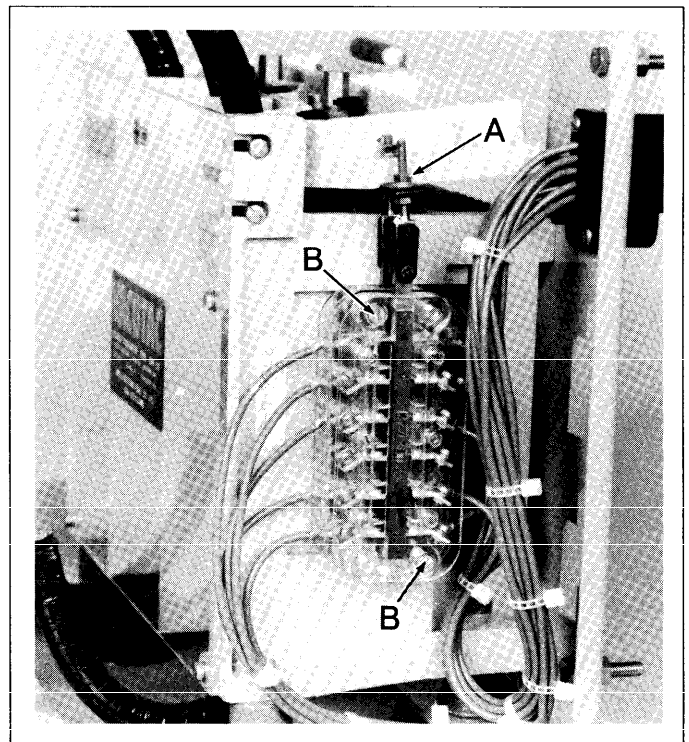
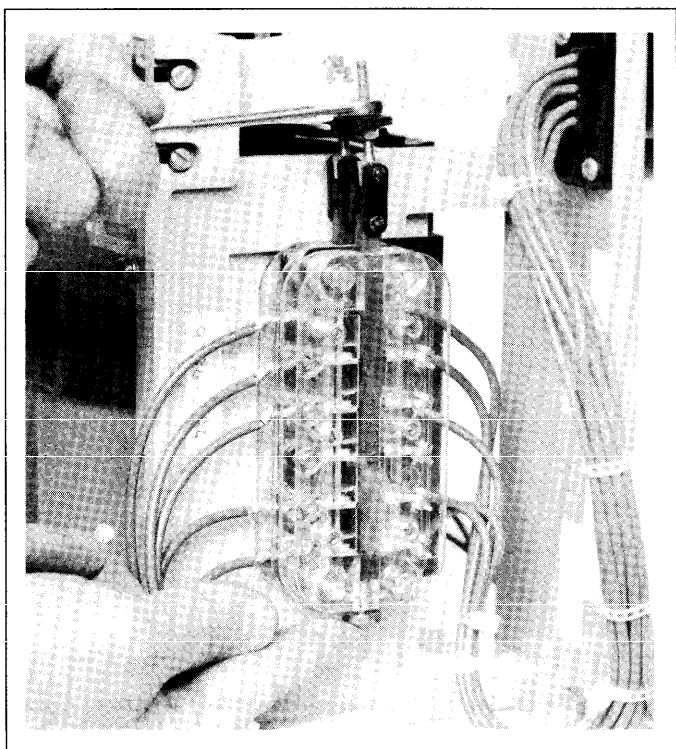

Figure 13. Replacement of interlock block assembly.
Figure 14. New interlock adjustment.
1. Tag all the wires that connect to the interlock terminals and then remove. See Figure 13.
2. Remove the nut from top of interlock driver stem on the top side of the armature molding (or extension arm). Item A, Figure 13.
3. Remove the two (2) interlock mounting screws and remove the interlock from the contactor. Item B, Figure 13. Remove any extension rods, nuts, and washers that might be connected to the interlock and assemble these parts to the new interlock assembly.
4. Assemble the new interlock assembly to the contactor using its two (2) mounting screws. Install the nut on the top of the interlock driver stem but do not tighten at this time.
5. Insert the interlock set gage into the bottom of the interlock as shown in Figure 14.
6. Adjust the nuts at the armature molding (extension arm) until the moving contact carrier inside the interlock block just touches the top of the interlock set gage. See Figure 14.